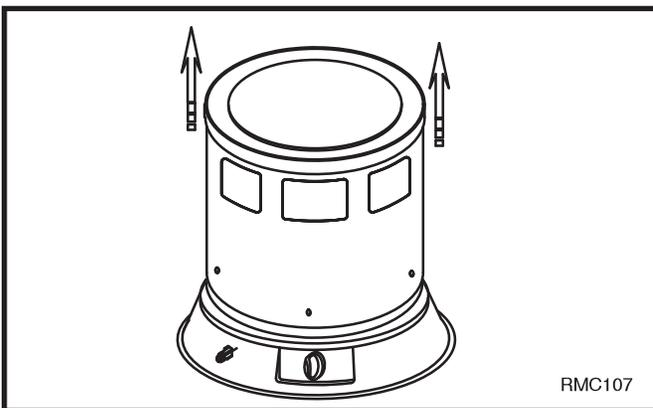

Fig. 2 Slide upper shell assembly up and off lower shell.
3. Slide upper shell assembly up and off lower shell. LPC80/200 (Fig. 2)